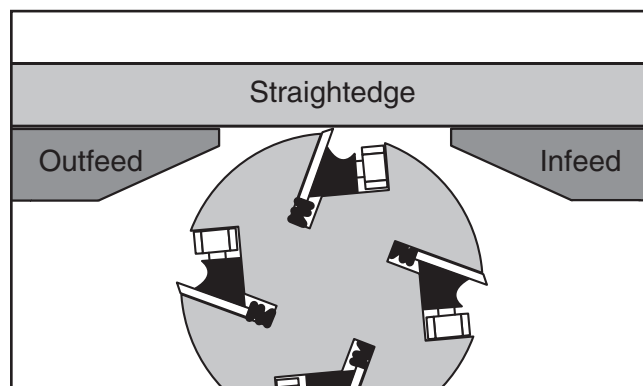

Figure 45. Infeed table adjusted even with outfeed table and knife at TDC.
3. Adjust the infeed table until it is level with the outfeed table, as illustrated in **Figure 45**.